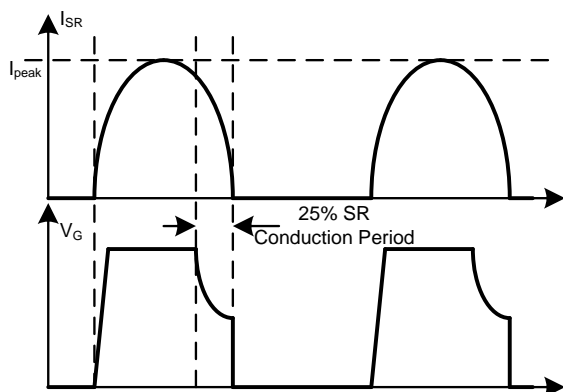

Figure 12: Synchronous Rectification Typical Waveform in LLC
Figure 12 shows the typical waveform of the LLC on the secondary side. To achieve a fairly high usage of the MOSFET's $R_{DS(ON)}$, it is expected that the MOSFET driver voltage is kept at the maximum level until the last 25% of the SR conduction period. Calculate V_{DS} with Equation (2):